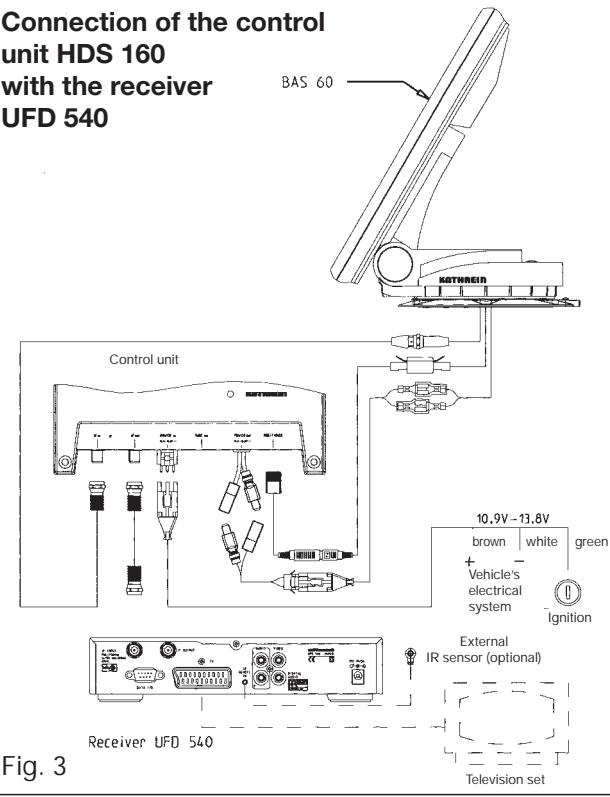

Fig. 3
- Observe the available cable lengths (Fig. 3). The control unit HDS 160 must be installed in such a way, which allows adequate air circulation behind the unit (installation, for example, on carpeted walls is not allowed!).
When all the cable connections are properly established (refer to Fig. 3), the power supply can be connected again. The system is now ready for operation.
The cables are to be connected to the new control unit as follows (Fig. 3 or 1):